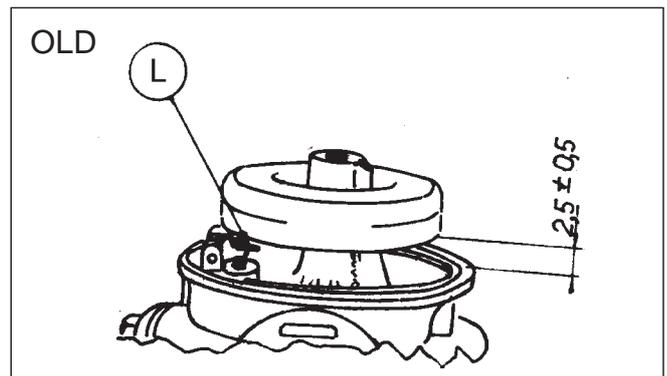

Fig. 16
Invert assembled float and carburettor body and check clearance between body and float at portion of float opposite hinge. Clearance should be  $3/32''$  (2,5 mm +/- 0,5) (Fig 16). If adjustment is necessary, remove the float shaft and bend the tang (L) on float lever, raising or lowering it until correct clearance with the float mounted, is obtained.
If the carburettor is fitted with a white plastic float, the distance 'L' (Fig 16) is pre-set and non adjustable. If this setting is not correct, or float is damaged, a new float must be fitted.